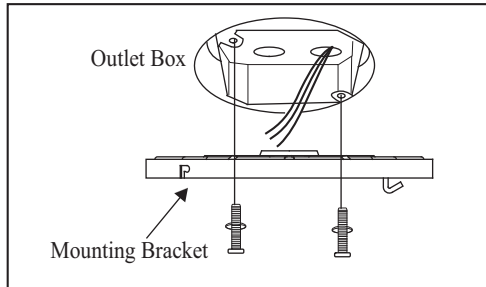

Figure 4
1. Attach the mounting bracket to the outlet box with two screws and washers provided with the outlet box. Make sure the bracket is tight and secured (Fig. 4).